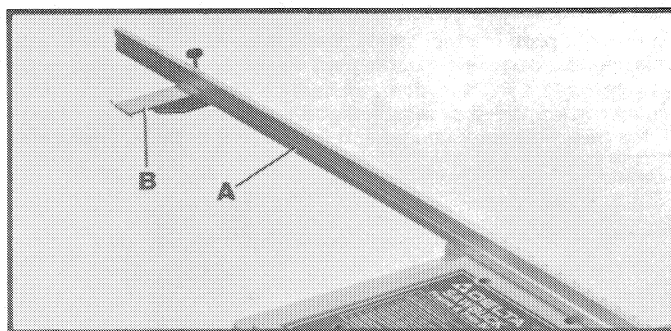

Fig. 61
The accessory 33-052 Fence Extension, is available for your Sawbuck and is easily assembled to the end of either fence, as shown in Fig. 61. The support (B) is the same height as the fixed and rotating tables and can be moved anywhere along the length of the extension.